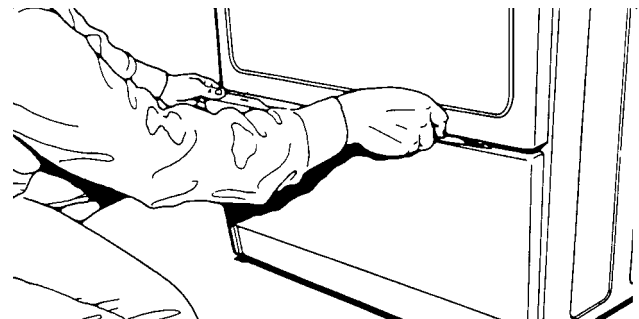

Fig. 19
- Using a blade screwdriver, locate and release the two toe panel clips, approximately 4" in from each side. (Fig. 19)